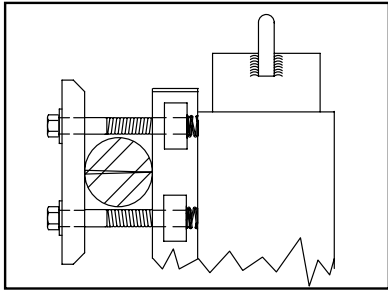

FIG. 2a
- a. **3/4" or 1" rungs:** mount bracket with flanges toward ladder rungs; use washers under heads of bolts for 3/4" (Fig. 2a)